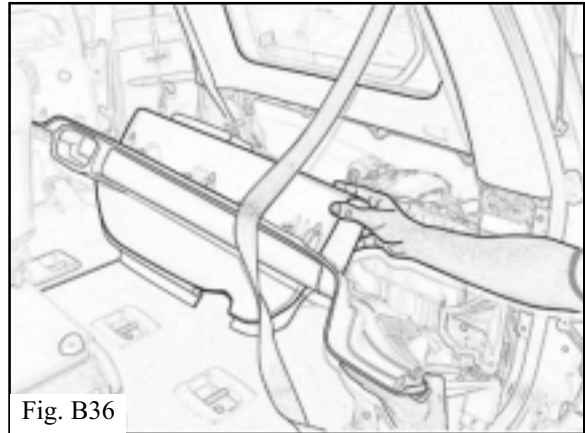

Fig. B36
- xii. Lift out the panel by pulling out from the bottom, then tilting out the top. (Fig. B36)